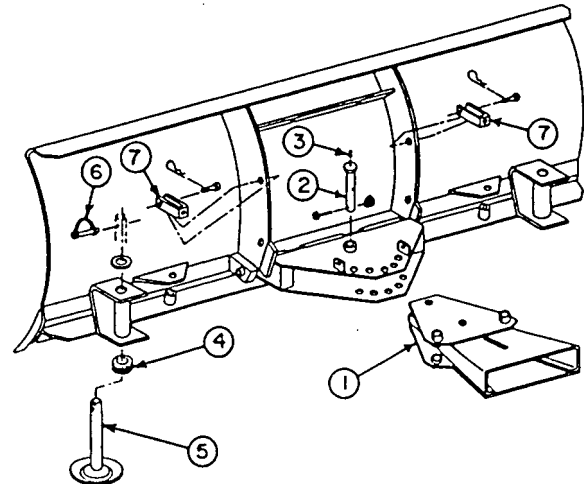

FIGURE 1
Raise blade to transport position. Remove the linchpin (fig.1, item 6) from both skid shoes (fig.1, item 5). Remove or add shim washer(s) (fig.1, item 4), placing washers on under side of support brackets for more clearance (there must always be at least one shim washer on top side of support bracket). Reinstall linchpins.
- a) Install the female quick hitch (fig.1, item 1) inside the blade attachment (slot on top side) using a 23/32" dia. x 4 11/16" long pin (fig.1, item 2). Lock the pin in place with a 1/4" x 1 1/2" bolt & nylon lock nut on the underside of the blade attachment.
- b) Install grease fitting (fig.1, item 3) on pin (fig.1, item 2).
- d) Place four shim washers (fig.1, item 4) over each skid shoe (fig.1, item 5). Insert one skid shoe in each support bracket from underside. Place two shim washers over each skid shoe on top side of support bracket and secure skid shoes with linch pins (fig.1, item 6).
- e) Install the trip spring lockout brackets (fig.1, item 7) in the upper holes behind the blade. Lock in place with the 3/8" x 1 7/16" pins and the 3mm x 65mm hairpins.